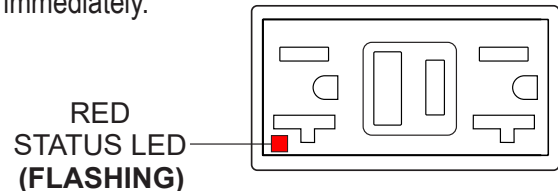

Figure 77. GFCI Receptacle (RED Flashing LED)
6. If the status LED (Figure 77) is **flashing (RED)**, **DO NOT** use the GFCI receptacle and replace it immediately.